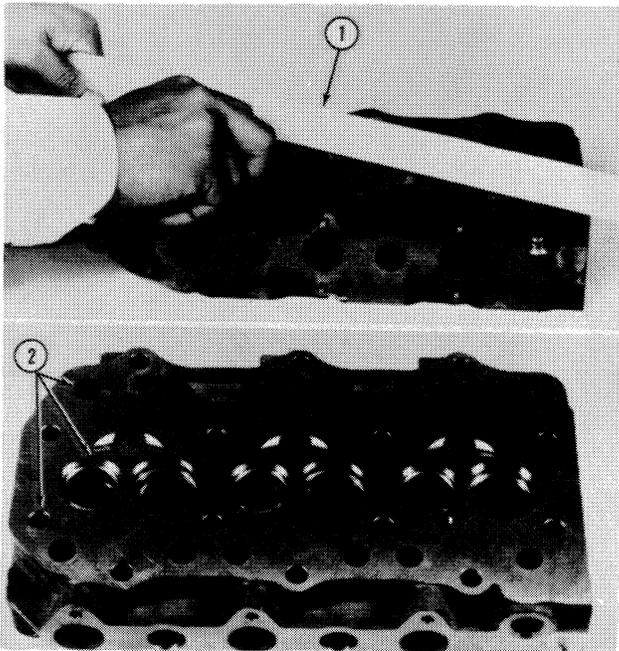

Figure 17
7. Use a straight edge and feeler gauge and check the cylinder head for warp in the area shown at (2), Figure 17.